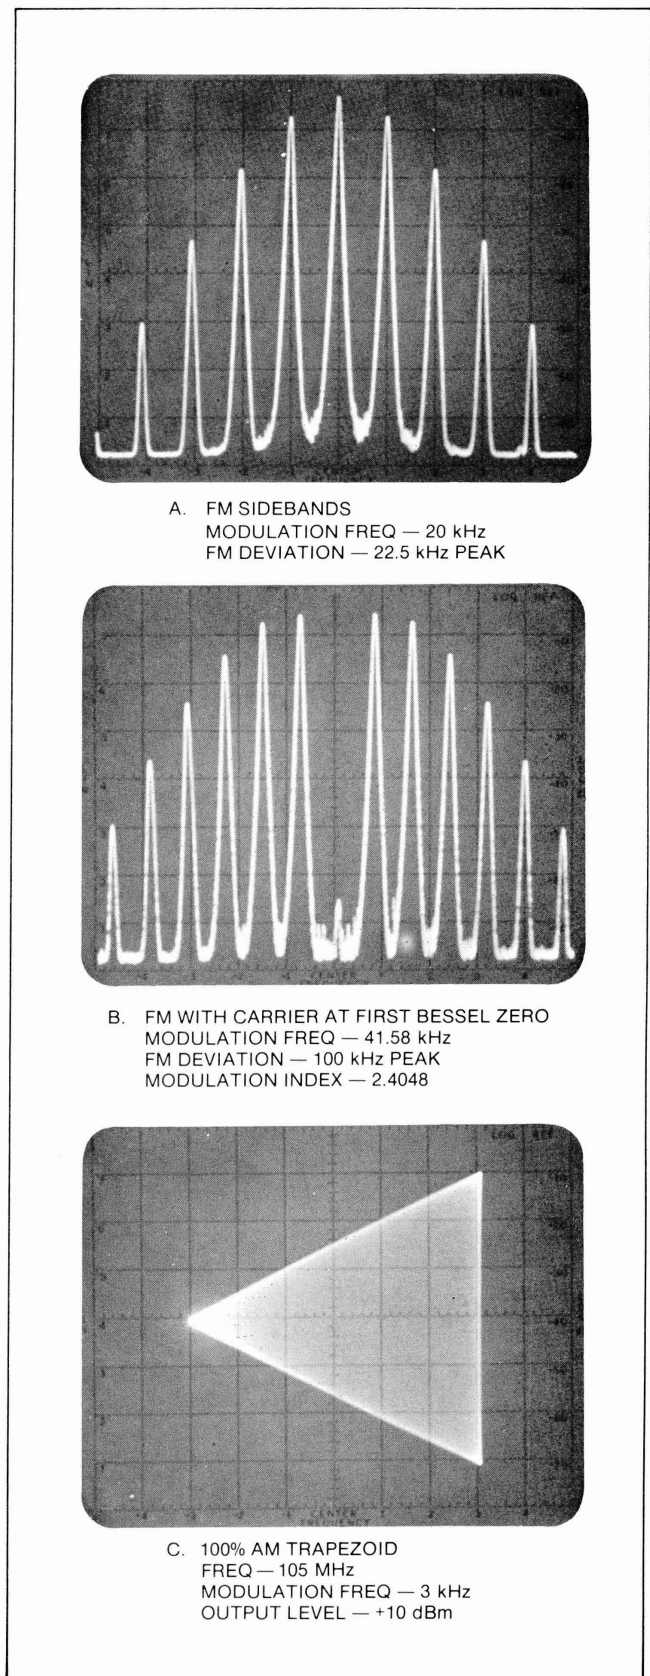

Figure 1-5 FM/AM Modulation Characteristics
d. **FM/AM Modulation Capabilities.** (See Figure 1-5.) The Model 102D is the ideal instrument for a wide variety of test applications because of its flexible modulation capabilities. FM and AM, using either internal or external modulation signals, can be used either singly or simultaneously. FM deviation is calibrated to an exceptionally wide 300 kHz in five ranges, and can be increased to over 1 MHz uncalibrated. The FM bandwidth extends from 50 Hz to 200